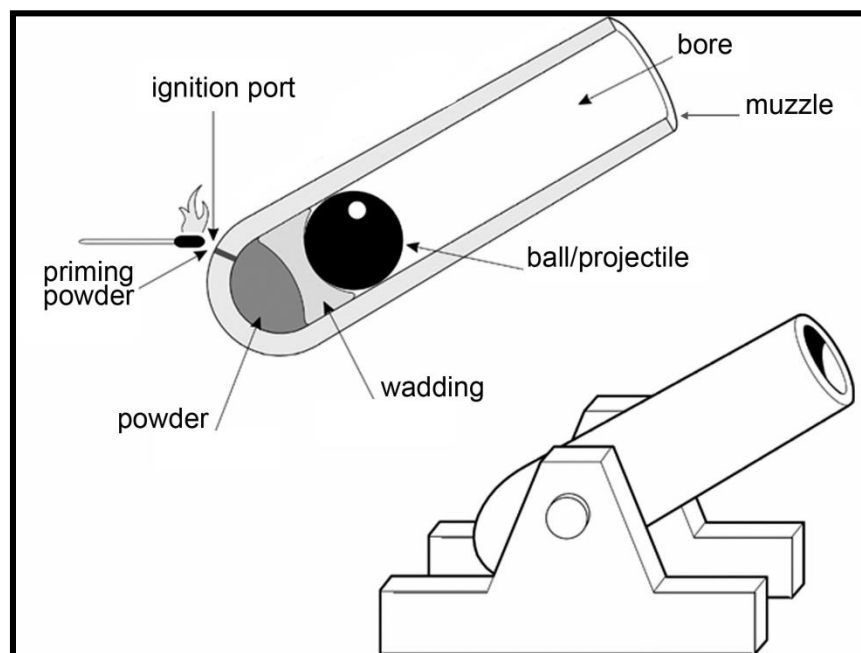

Figure 1. Cannon
- People in the Middle Ages quickly learned to use black powder to launch balls or projectiles from a cannon. They did this by igniting the powder behind the ball or projectile in a cannon (Figure 1).